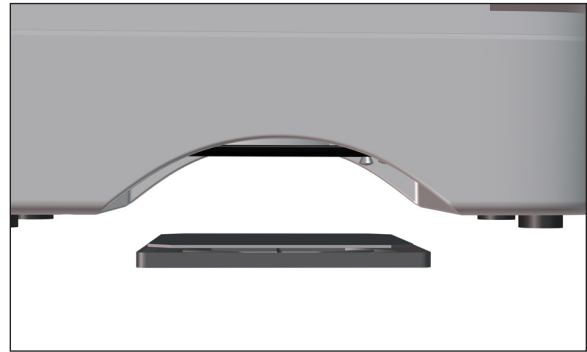

Figure 154 - Step 8 Re-attach filter retainer
8. Place the filter retainer with filter into position against the fan guard. Press firmly on all four sides until it snaps into place (Figure 154).